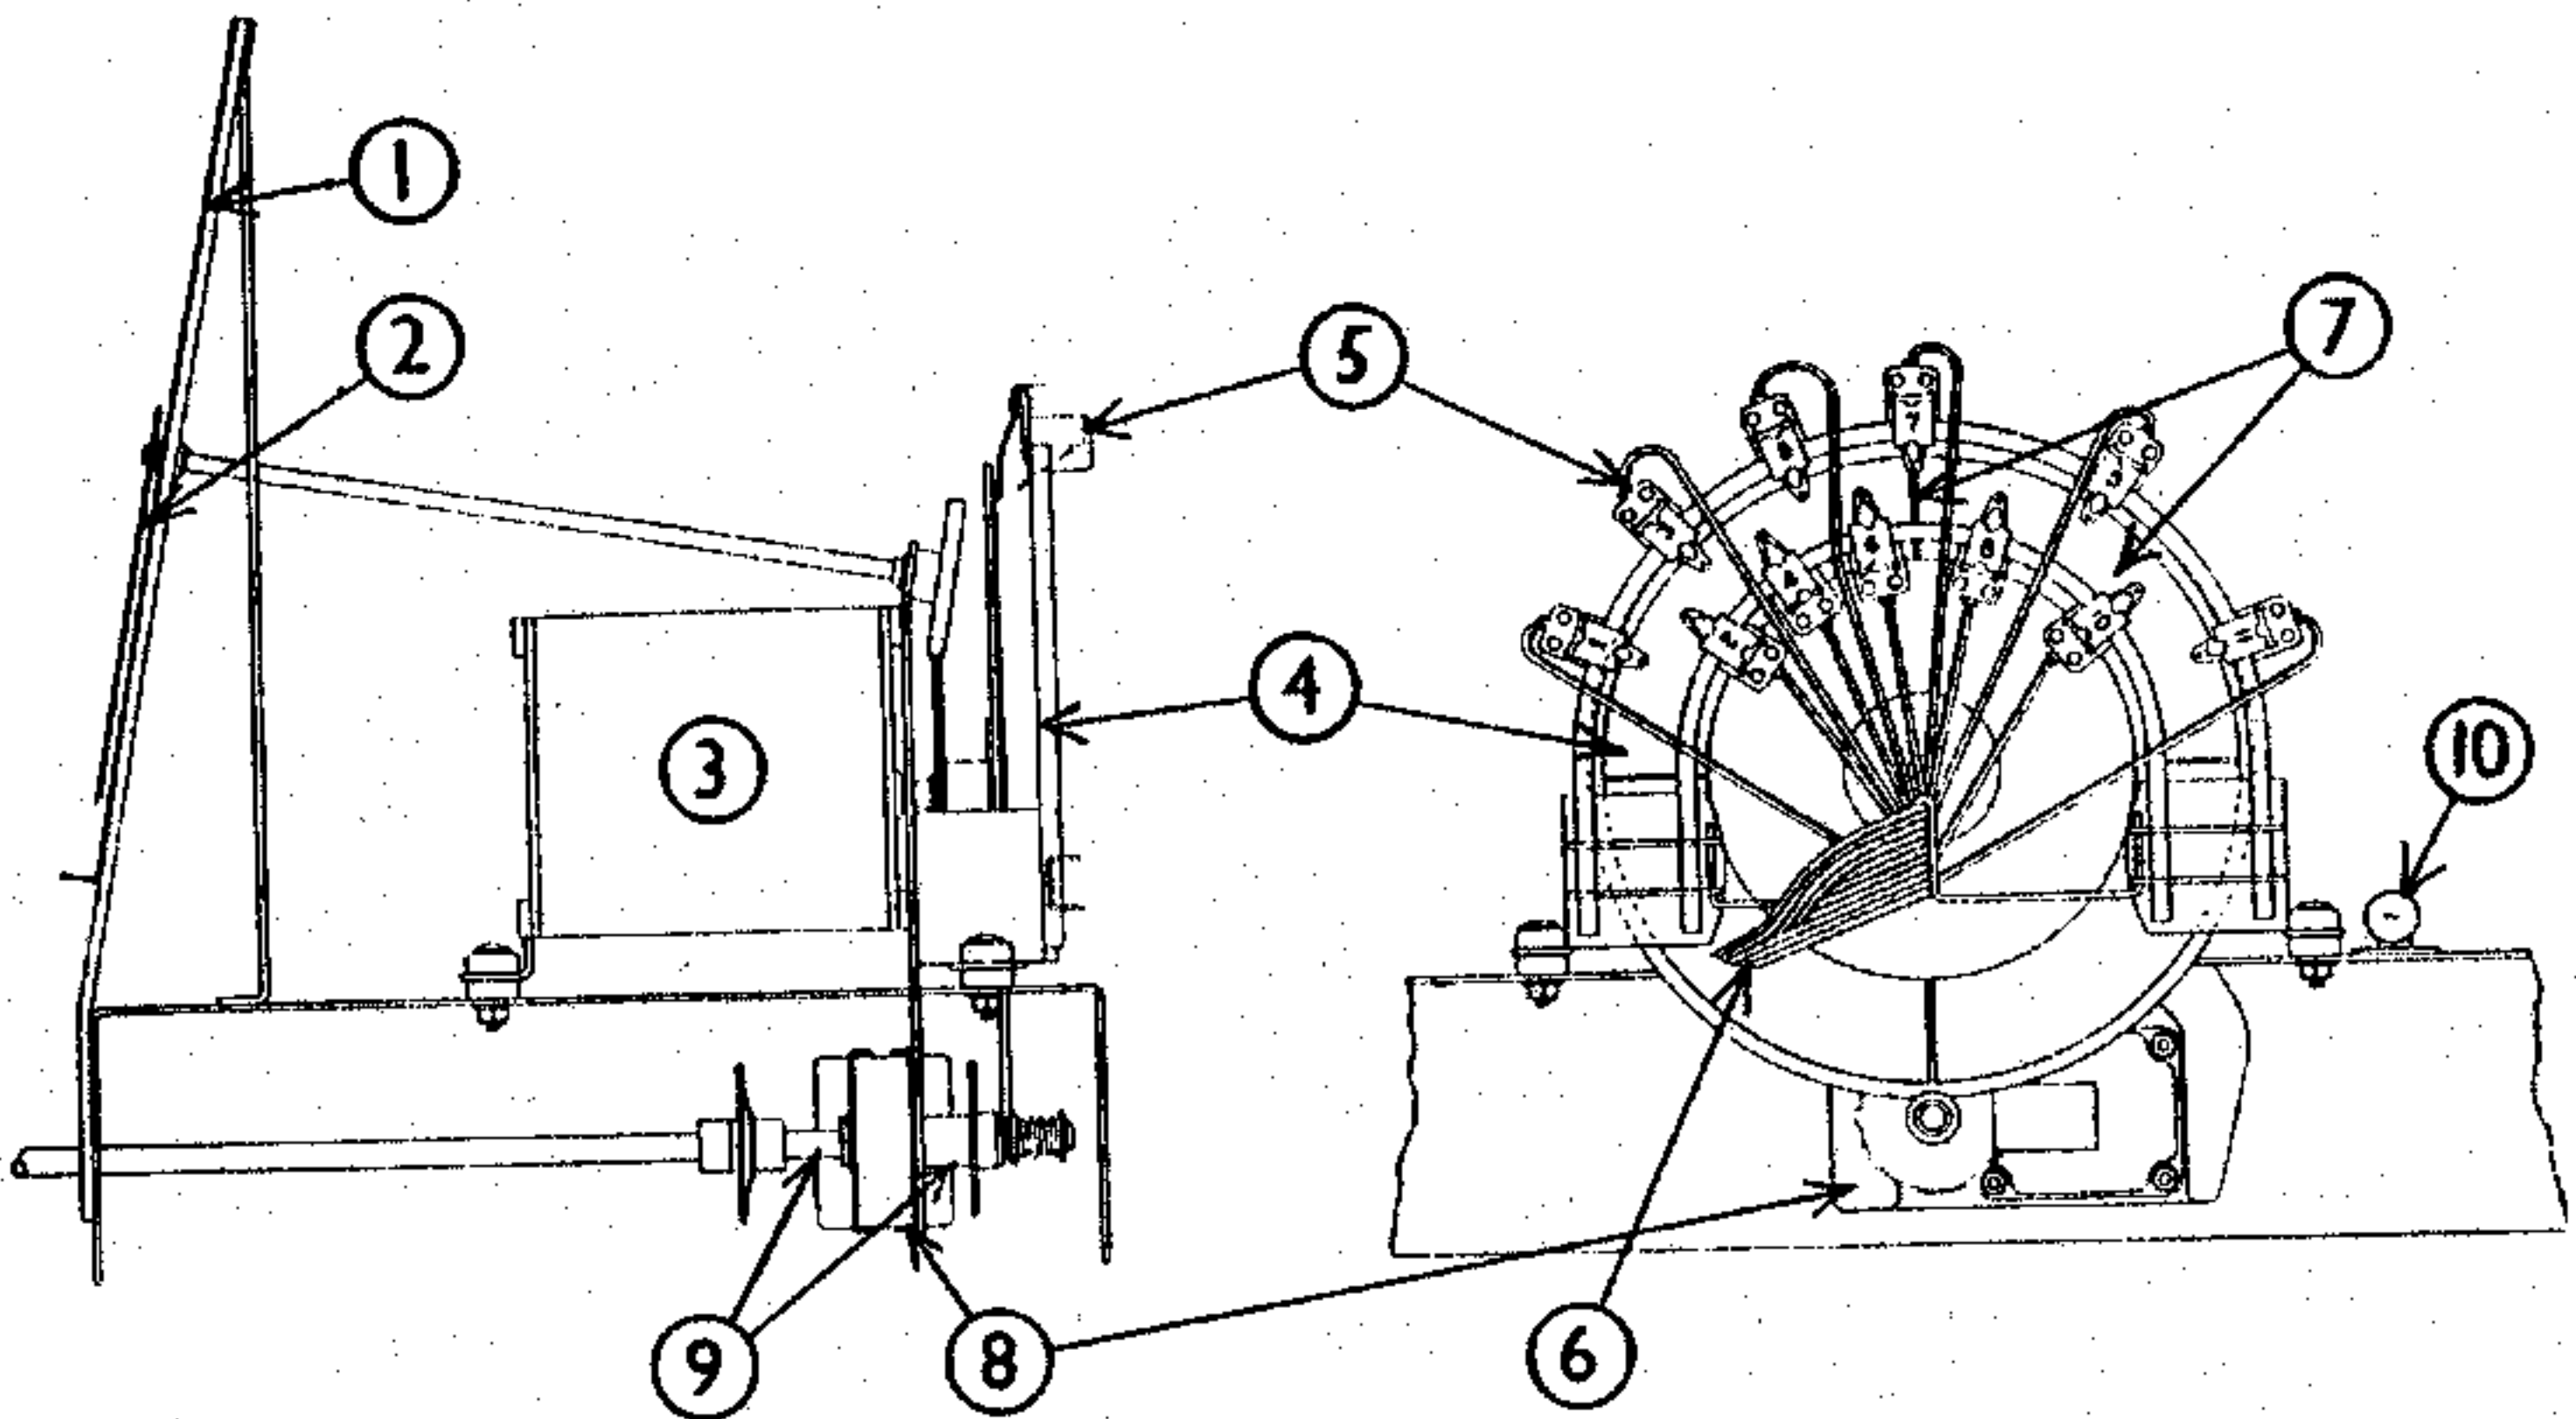

Fig. 3.—Mechanical layout of the Ekco PB199 receiver.
So the system is "direct-homing," and only one selector disc is used. The mechanical layout used by Ekco in the PB199 is shown in Fig 3. Here 1, 2 and 3 are the tuning scale, pointer and gang condenser. The contact clips (5) are mounted on, but insulated from, two semi-circular carrier rails (4), two being used to allow stations on adjacent channels to be selected. 6 represents the leads from each contact clip to the press buttons on the front of the cabinet. 7 (upper arrow) is the insulated strip which breaks the contact of any clip under which it passes with the heavily silvered selector plates